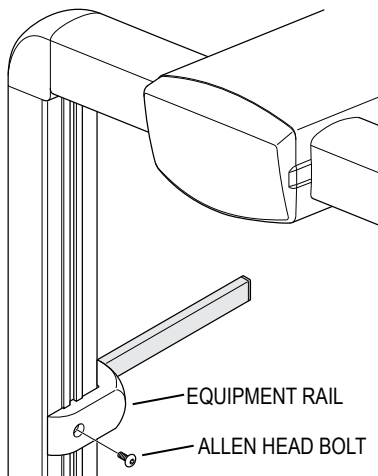

Figure 2. H8-200-02-A Rail
3. With the equipment rail pointing inward towards the utility panel, align the hole in the equipment rail with the T-nut and install the Allen head bolt (Figure 2).